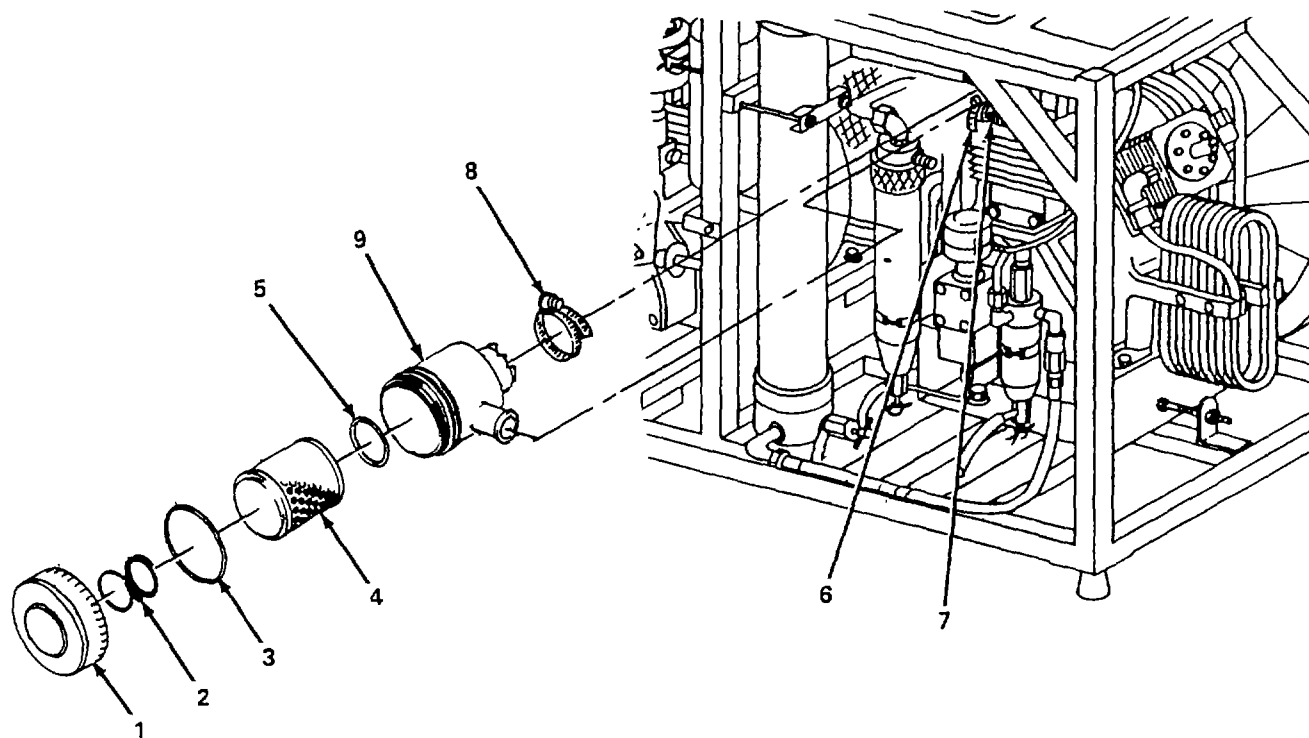

Figure 4-5. Inlet Filter and Adapter Assembly, Service.
a. Service. (figure 4-5)
- (1) Remove cover (1), spring (2), preformed packing (3), filter (4), and preformed packing (5). Discard preformed packings (3) and (5).
- (2) Loosen clamp (6) and remove air inlet hose (7).
- (3) Loosen clamp (8) and remove body (9).
- (4) Inspect body (9) and remove all dirt and debris from interior.
- (5) Inspect cover (1) and remove all debris from interior.
- (6) Install body (9) and tighten clamp (8).
- (7) Install air inlet hose (7) and tighten clamp (6).
- (8) Install new preformed packing (5), new filter (4), new preformed packing (3), spring (2), and cover (1).